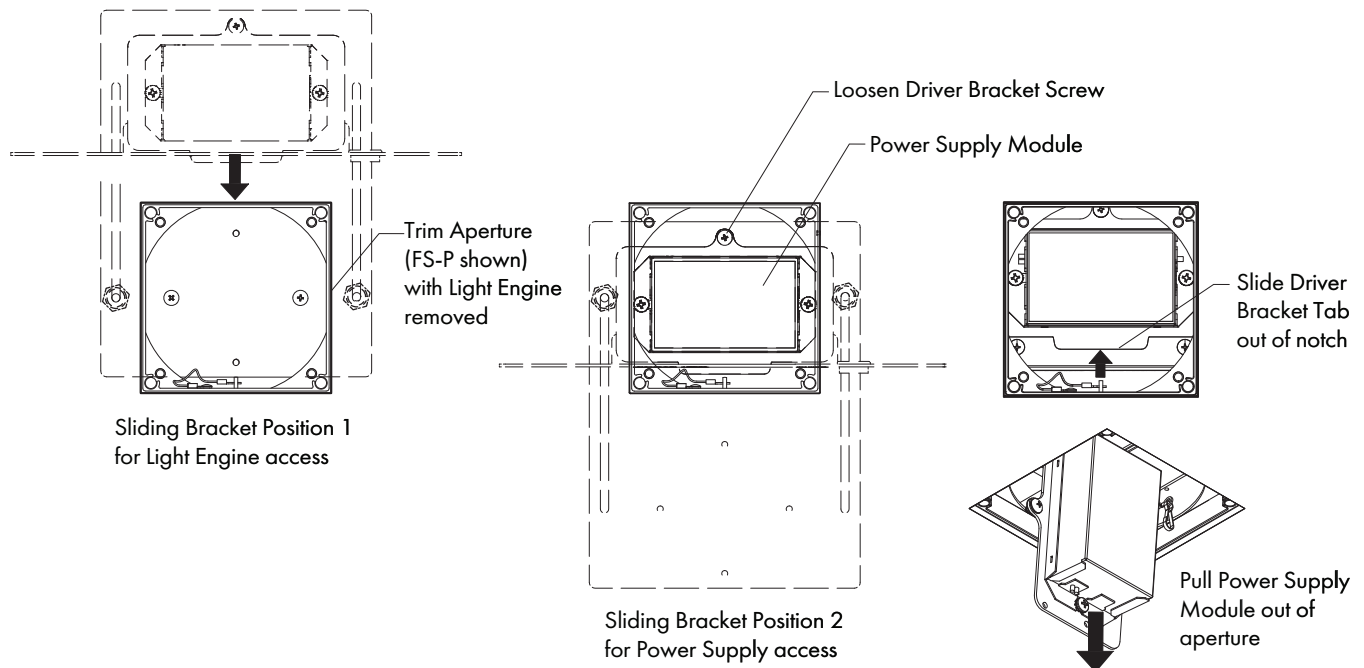

FIG 6.2 Move Sliding Bracket & Remove/Replace Power Supply Module
STEP 3 Move Sliding Bracket along slots to reveal Power Supply Module in the aperture (Position 2)—**FIG 6.2**.
STEP 4 Loosen Driver Bracket Screw & pull Power Supply Module through aperture & disconnect all wires—**FIG 6.2**.